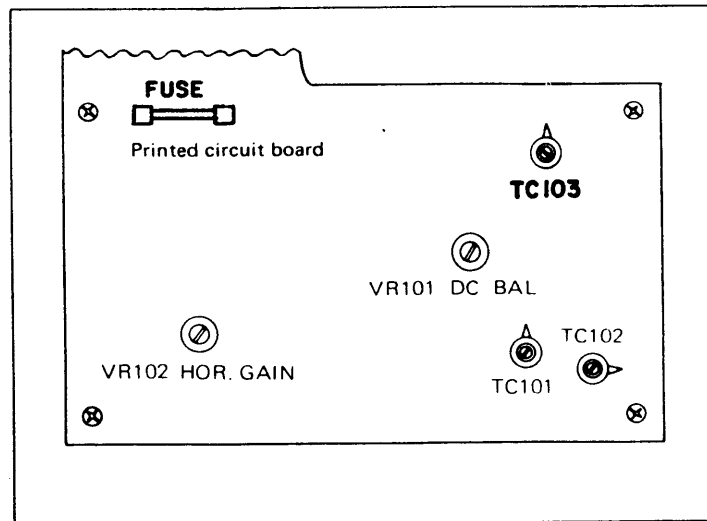

Fig. 6. Locations of Adjustments.
5. If the trace shifts in step 4, adjust DC BAL trimmer VR101 for minimum shifting of the trace as the V GAIN control is rotated. For easiest adjustment, start with the V GAIN control fully counter-clockwise. Repeat adjustment until shifting of the trace is minimized. VR101 is accessible through a hole in the bottom of the chassis as shown in Fig. 1 - or - the top case may be removed, and VR101 is located as shown in Fig. 6.
3. Adjust **HOR GAIN** trimmer VR102 for a horizontal deflection of 10 divisions. VR102 is accessible through a hole in the bottom of the chassis (see Fig. 1). If the case is removed, VR102 is located as shown in Fig. 6.
4. Adjust **HOR GAIN** trimmer VR104 for a trace length of 10 divisions. VR104 is accessible through a hole in the bottom of the chassis (see Fig. 1). If the case is removed, VR104 is located as shown in Fig. 6.
2. Remove the fuse from the fuse holder (located on the printed circuit board, refer to Fig. 6) and insert a new fuse of the proper value; 0.5 A for 117 volt operation, 0.3 A for 230 volt operation.